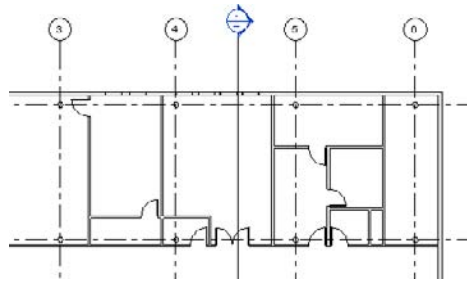

Figure 3.71
3. Zoom into the area between grids 3 through 6 and A through B (Figure 3.71).